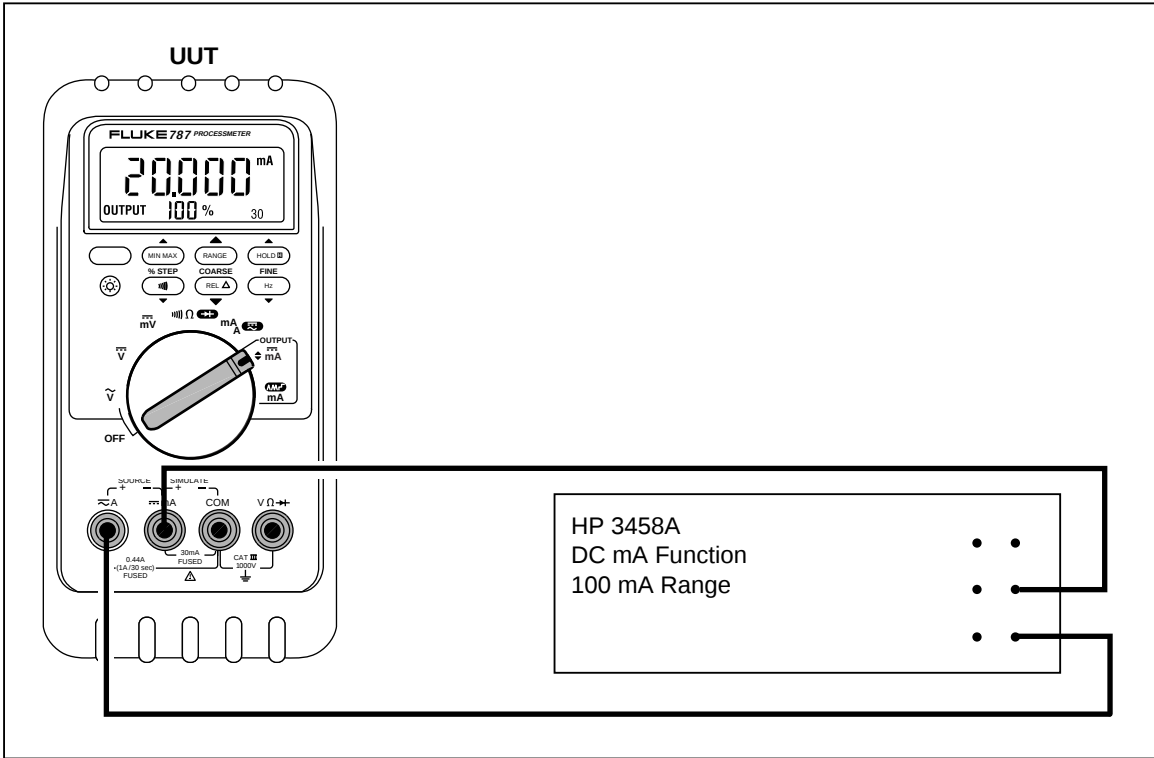

Figure 4. Current Sourcing Connections Using the HP 3458A
- 2. Connect the **SOURCE + ($\sim$ A)** and **– ($\sim$ mA)** terminals on the UUT to the current terminals on the multimeter as shown in Figure 4.